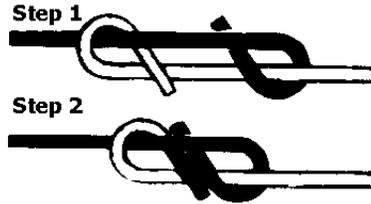

Figure-8 Splice
- High-tensile wire – “Figure-8,”